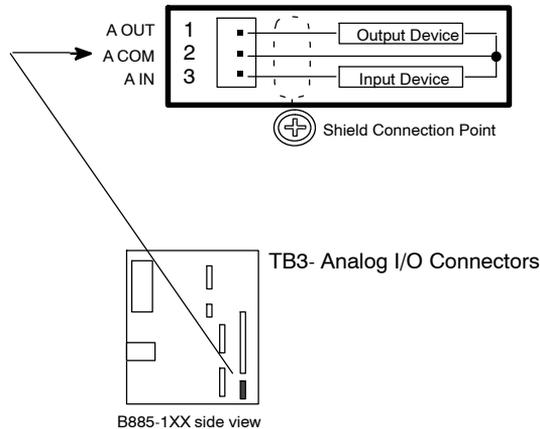

Figure 37 Analog I/O Test Points on the B885-1XX
- a. Analog input mode to select User Variable (1).
- Step 2** Connect the positive output of a 0 ... 10 Vdc variable power supply to the analog input pin TB3-3 and connect the common output to the input common pin TB3-2. Set the power supply output at +5 Vdc. Refer to Figure 37.
- Analog output mode to select User Variable (4).
- Step 7** Using a dc voltmeter, measure the analog output voltage from pin TB3-1 (A OUT) and to pin TB3-2 (A COM). The output voltage should be + 5 Vdc. Refer to Figure 37.